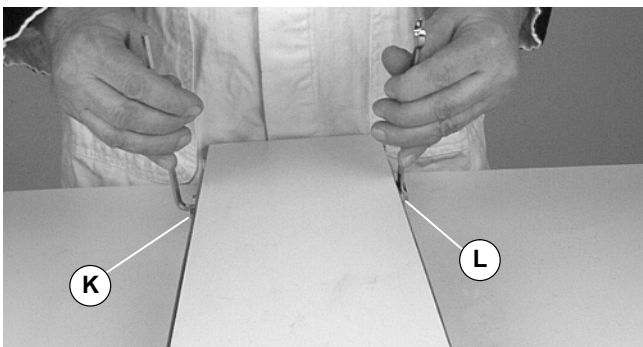

Figure 14
3. Loosen lock screw (L of Figure 14).
5. Secure lock screw (L of Figure 14) to 40 in-lb (4.5 N-m)